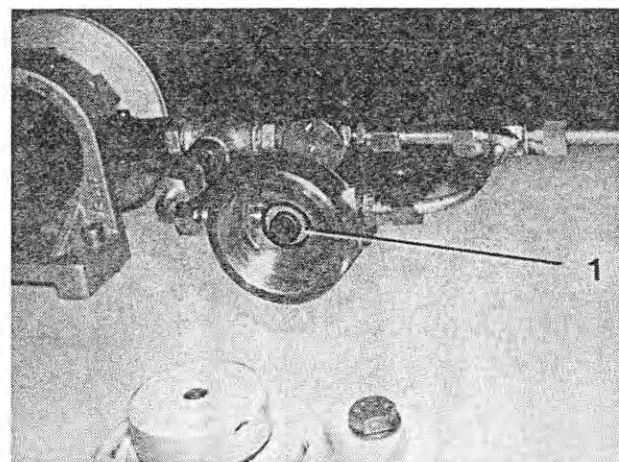

Fig. 78
4. Check whether the seal (Figure 78/1) is in a good condition and properly seated. Replace it, if necessary.